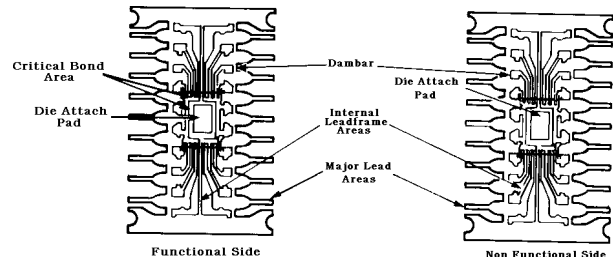

**Figure 8**
*pits* — Shallow surface depressions or craters in the leadframe material (see Figure 8).